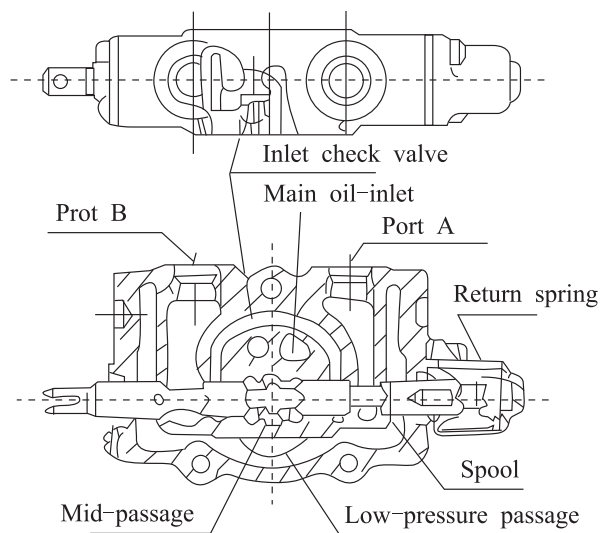

Fig. 7-4
(1) Neutral position (See Fig. 7-4)